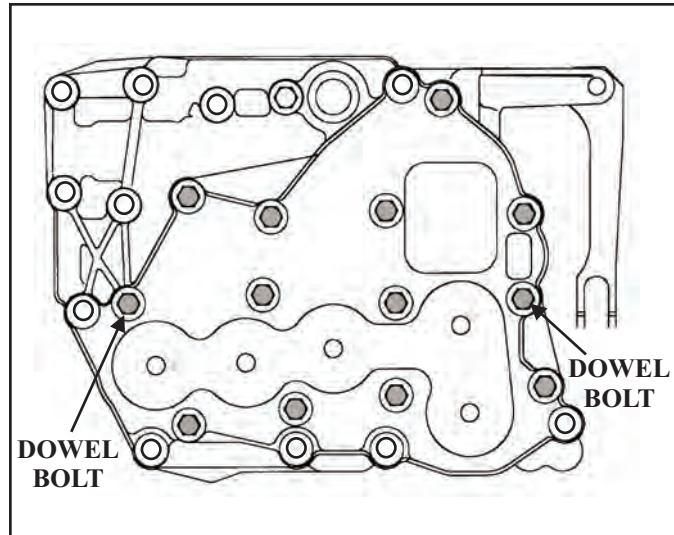

Figure 187
24. Install the two aligning dowel bolts and the remaining 11 connector plate cover to valve body retaining bolts as shown in Figure 187. Finger tighten only.